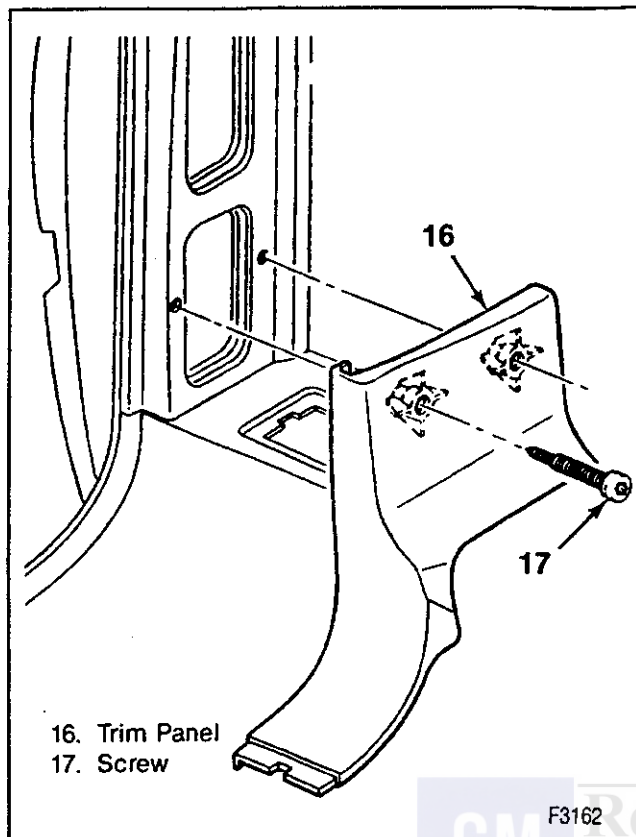

Figure 22—Side Rear Lower (Regular Cab)
#### ↔ Remove or Disconnect (Figures 22 and 23)
**Install or Connect (Figures 22, 23 and 24)**